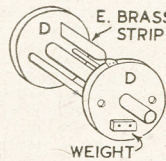

Fig. 3—Inside mechanism
Take care not to cut the pointed end too short. It will, in any case, require a little adjustment later, to ensure that it just catches the brass strips on the inner drum but does not project sufficiently to prevent the outer drum from revolving independently of the inner. Cut two lengths of ¼in. dowel and the one piece of ½in. dowel and glue these into the smaller discs as shown at Fig. 3.
As a trial, cut the pieces 3½ins., 3ins., 2½ins., 2¼ins., 2ins. and 1½ins. Drill two small holes in each, at one end, and then, holding them in a vice or between pliers, twist them to a right-angle near the end where the holes have been drilled, as shown at Fig. 1 (E). Divide one of the discs into six equal divisions round the edge (60 degrees each by protractor) then screw one piece of the metal strip in the middle of each section. This is shown at Fig. 3, but for clearness only one of the six notes is shown.
Now remove the drum again and screw a small piece of sheet lead (or anything similar that can be drilled for screws) about 1in. by ½in. to each of the drum discs, as shown at Fig. 3. Glass-paper the main spindle and the holes bored for it in the big discs, until the drum spins freely. Then put the drum into position and add the second big disc. The drum is prevented from moving sideways by wooden pegs glued through the spindle at each end, as shown in the sketch of the complete toy.